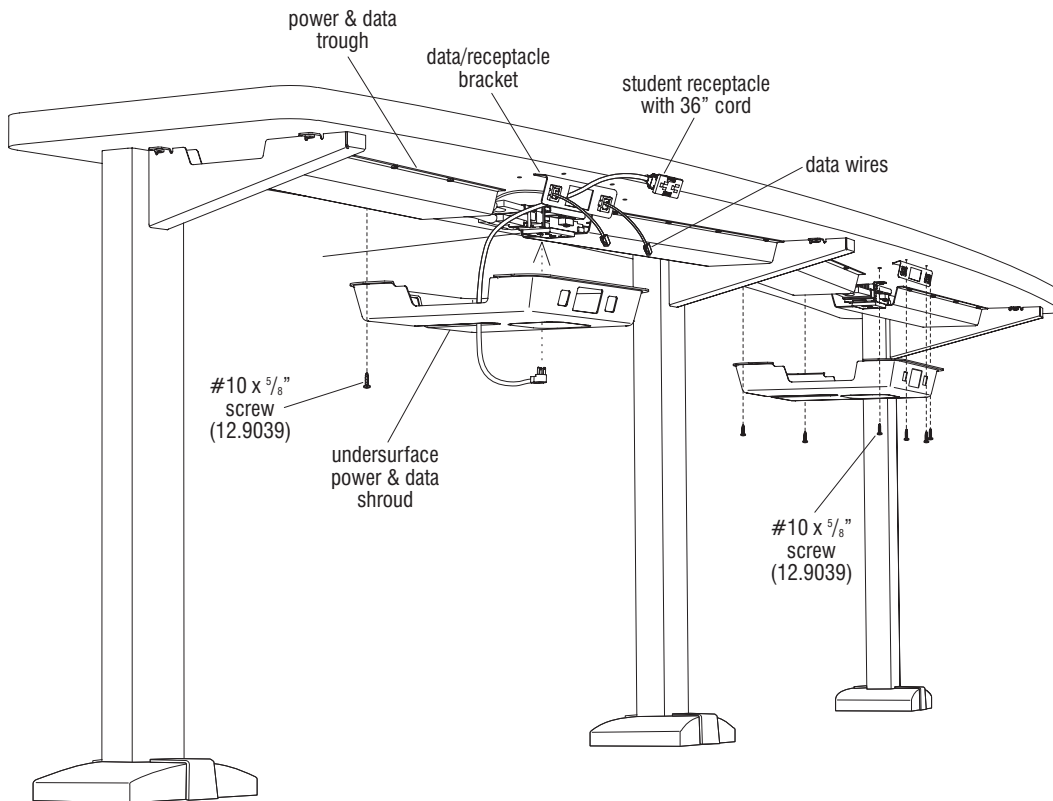

Figure 17
32. Install the student receptacle by first routing the cord end through the middle hole in the data/receptacle bracket, then snap the receptacle into place. As illustrated position the under-surface power & data shroud under the data/receptacle bracket and power & data trough ends. Route the plug end of the student receptacle through the smaller hole in the shroud bottom and route the data wire ends through the two square openings. Fasten the shroud to the underside of the table top using #10 x 5/8" screws provided and torque to 25 in/lbs. Lastly, plug the student receptacle cord into the 8-wire circuit receptacle as shown (Figure 17).